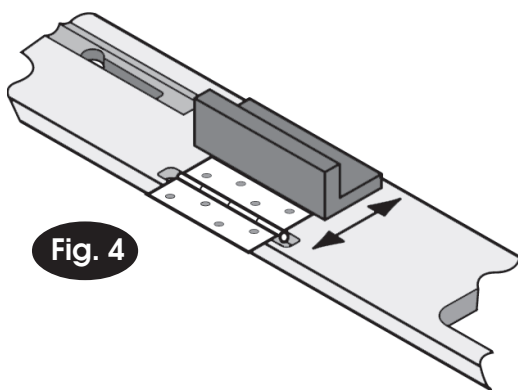

Fig. 4
2. Position the knuckle of the hinge in the slot opposite the alignment/clamping block as in Fig. 4.
3. Push the alignment/clamping block against the edge of the hinge as in Fig. 4.